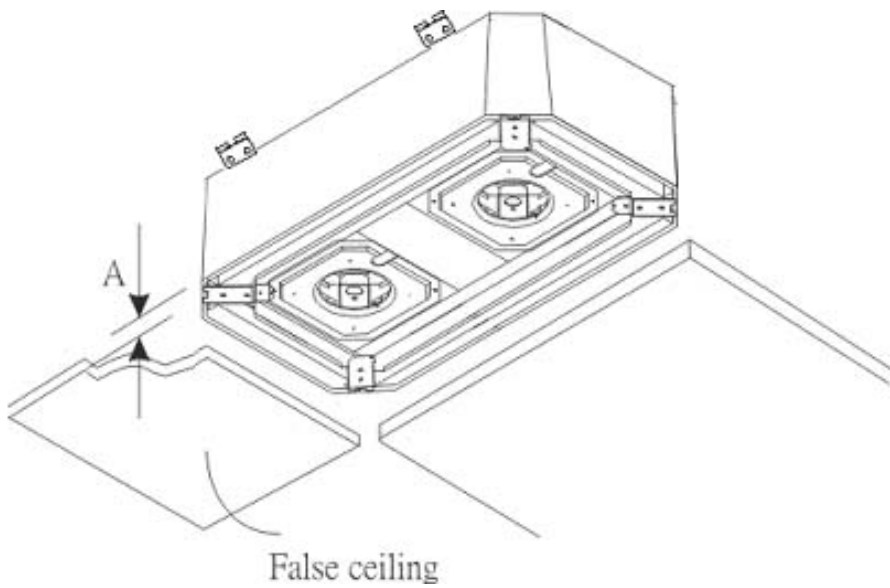

Fig. 15
- Using a level guide, line up the unit with a spirit level, and keep dimension between the body and the lower part of the false ceiling (Fig.12 Fig.15).